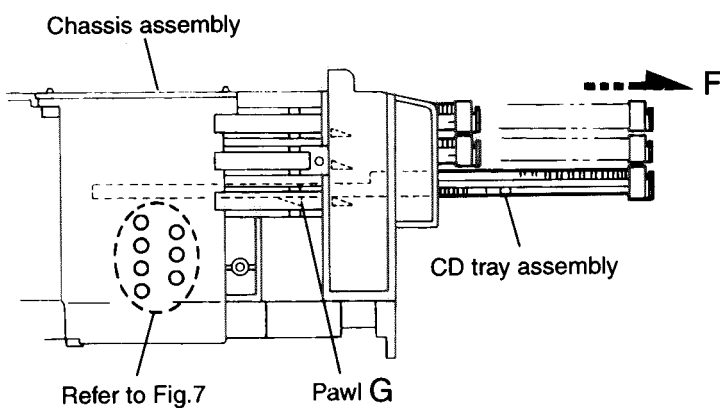

Fig.6
12. Make sure that the driver unit elevator is positioned as shown in Fig.6 from the second or fifth hole on the left side face of the CD changer mechanism assembly.
14. Pull out all of the three stages of CD tray assembly in the arrow direction F until these stages stop (See Fig.6).